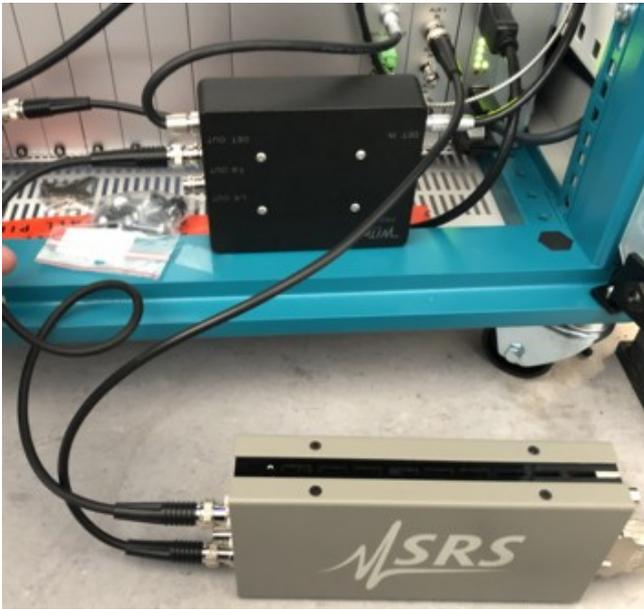

Figure 2: Wiring diagram (top) and installed components (bottom)
1. Connect Output of the preamplifier with AUX1-in. (Figure 2 and 3)